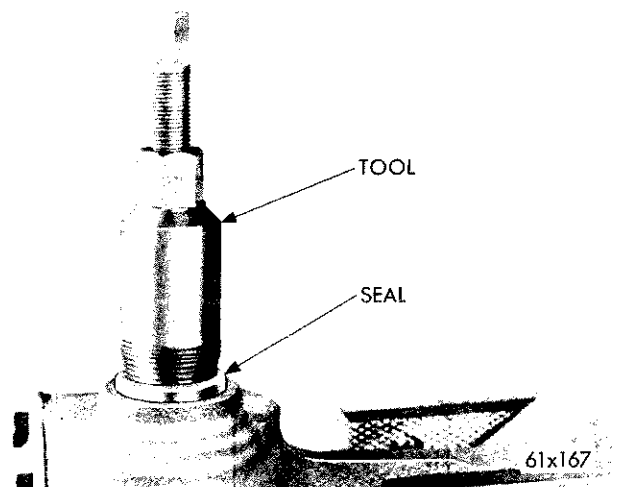

Fig. 6—Removing Worm Shaft Oil Seal
(1) Thread Tool C-3819 far enough into the oil seal to engage the metal portion of the seal (Fig. 6). Turning the tool center screw while holding the tool body will withdraw the seal assembly from the housing bore.
(2) Place oil seal protector of Tool C-3821 over splines of steering worm shaft and slide oil seal